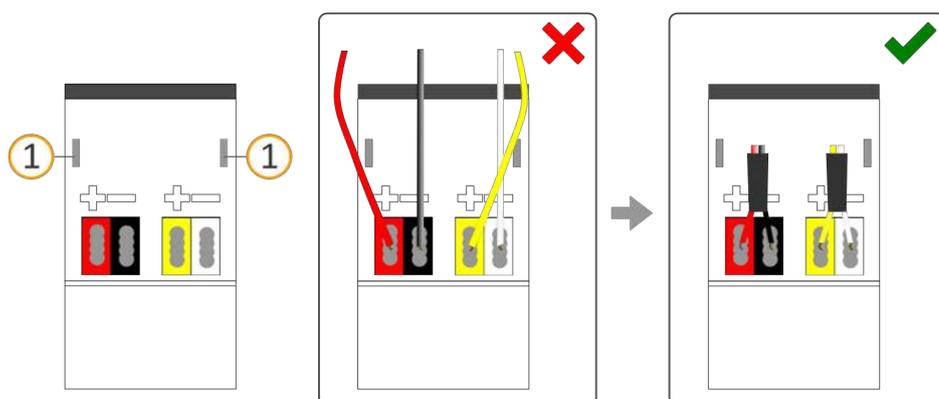

Figure 18: Cable routing
- a. Route all cables to the back. The openings for fastening the cover cap (see figure 18, item 1) must be clear. All cables must be between the openings.